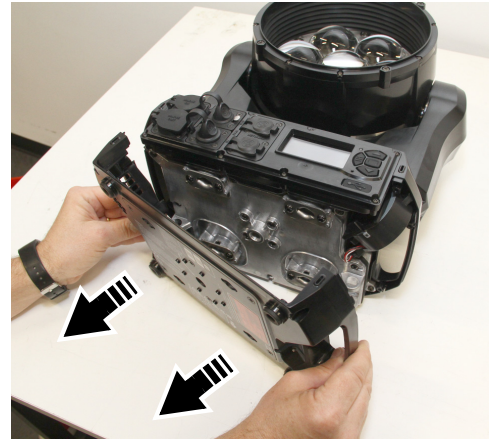

Figure 26: Removing the base cover
4. See Figure 26. Lift the base cover off the base.